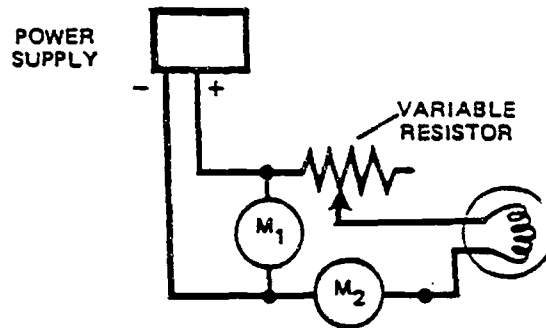

Figure 2. Schematic.
6. Turn the power supply OFF. Insert a variable resistor in place of the SPST switch (S_1). The resulting schematic is shown in Figure 2.